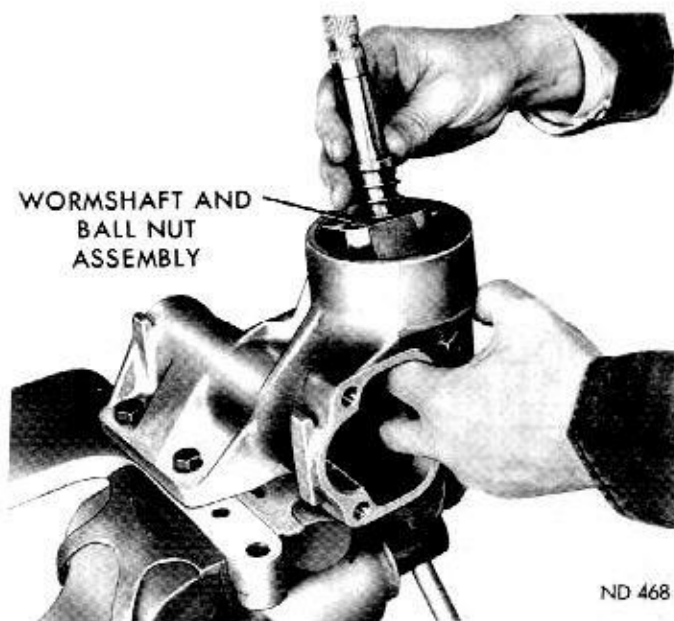
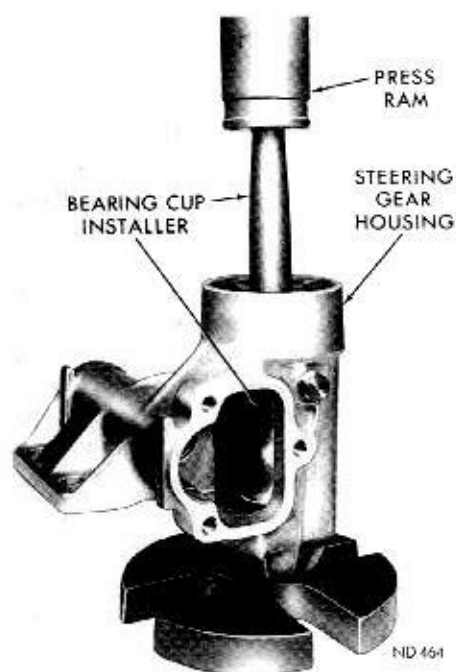

Fig. 6—Removing Worm Shaft and Ball Nut Assembly
Fig. 10—Installing Wormshaft Lower Bearing Cup
(9) Carefully remove worm and ball nut assembly (Fig. 6).
(21) To install wormshaft bearing cups, position cups in housing and bearing adjuster nut. Then press in place with Tool C-3865 (Figs. 10 and 11).
(22) Install wormshaft oil seal by positioning seal in wormshaft adjuster with seal metal retainer **UP**. Drive seal into place with a suitable sleeve so it is slightly below end of bore in adjuster.
(23) Apply a coating of steering gear lubricant to all moving parts during assembly, also place lubricant on and around oil seal lips.
(24) Clamp holding fixture and housing in a vise with bearing adjuster opening upward.
(25) Place a thrust bearing in lower cup in housing.
(26) Hold ball nut from turning (Fig. 6), and insert wormshaft and ball nut assembly into housing with end of worm resting in thrust bearing.
(27) Place upper thrust bearing on wormshaft.